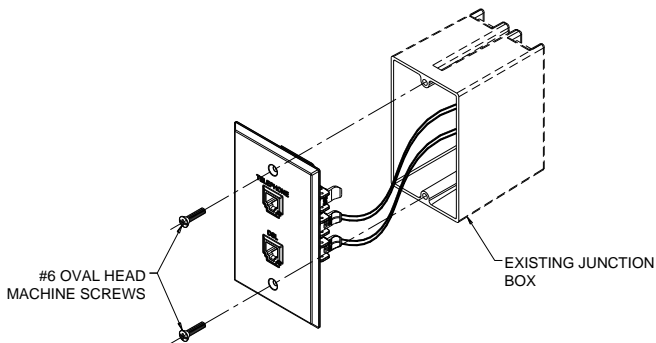

Figure 3
7. Dress the wires properly inside the junction box and secure the 761-4T-12, 761-4T-12K to the junction box using the supplied #6 oval head screws (See Figure 3). The 761-4T-12K also includes (2) #6 x 2" lg. oval head screws with ferrules.